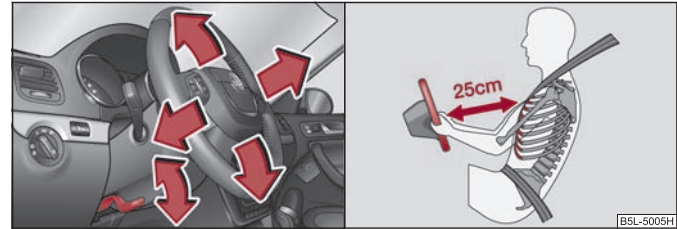

Fig. 3 Adjustable steering wheel: Lever below the steering wheel / correct distance to the steering wheel
- Pull the lever below the steering wheel down ⇒ fig. 3 - left.
- Adjust the steering wheel so that the distance between the steering wheel and your chest is at least 25 cm ⇒ fig. 3 - right. Not maintaining this minimum distance will mean that the airbag system will not be able to properly protect you - hazard!